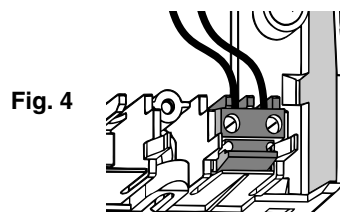

Fig. 4
- Attach the two wires to the terminal (Fig. 4).